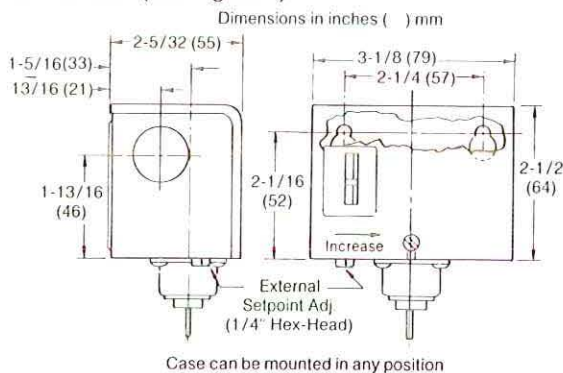

Figure 4. Mounting Dimensions
2. Mount case with two screws (#10 max) in screw slots in back of case (see Figure 4).